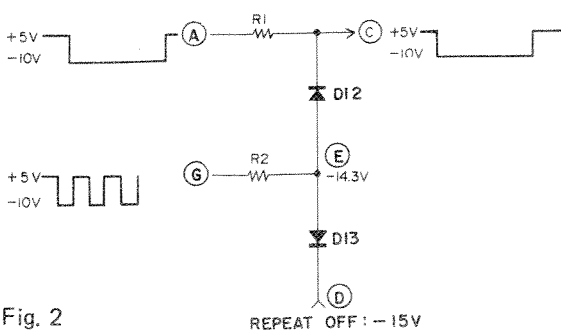

Fig. 2
With reference to Fig. 2, the potential at Point (E) will become -14.3V . The voltage variation at Point (G) will not appear at Point (C).